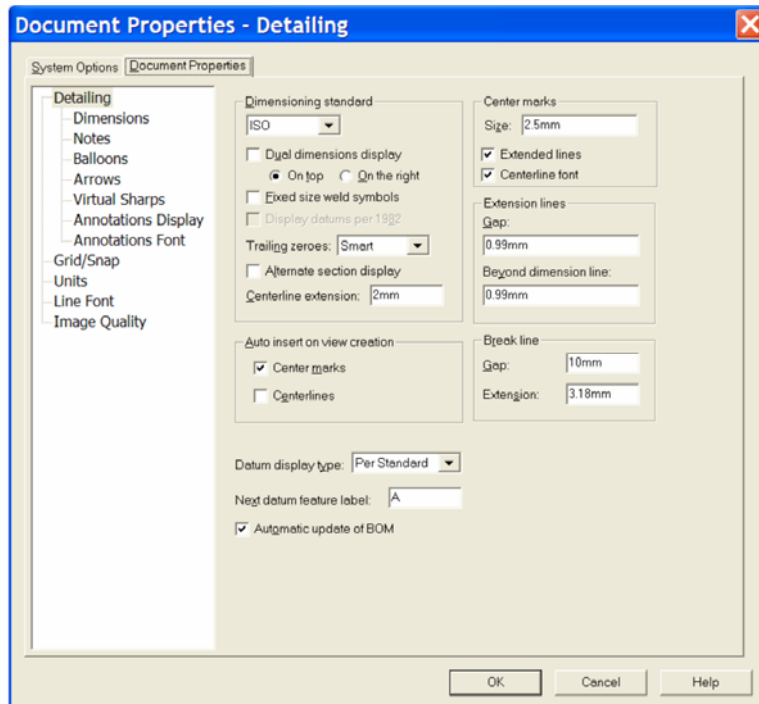

Figure 3
9. We are now ready to build and insert the **'Bill of Materials'**. From the **'Tools'** dropdown menu navigate to **'Document Properties'** and **'Detailing'**. Make sure that **'Automatic Update of Bill of Materials'** checkbox is selected. See Figure 3.